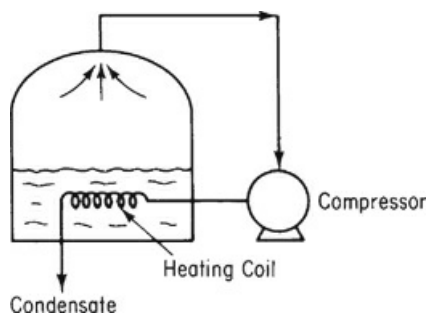

Figure P8.6.10
***8.6.10 In the vapor-recompression evaporator shown in Figure P8.6.10, the vapor produced on evaporation is compressed to a higher pressure and passed through the heating coil to provide the energy for evaporation. The steam entering the compressor is 98% vapor and 2% liquid, at 10 psia ; the steam leaving the compressor is at 50 psia and 400°F ; and 6 Btu of heat are lost from the compressor per pound of steam throughput. The condensate leaving the heating coil is at 50 psia , 200°F .